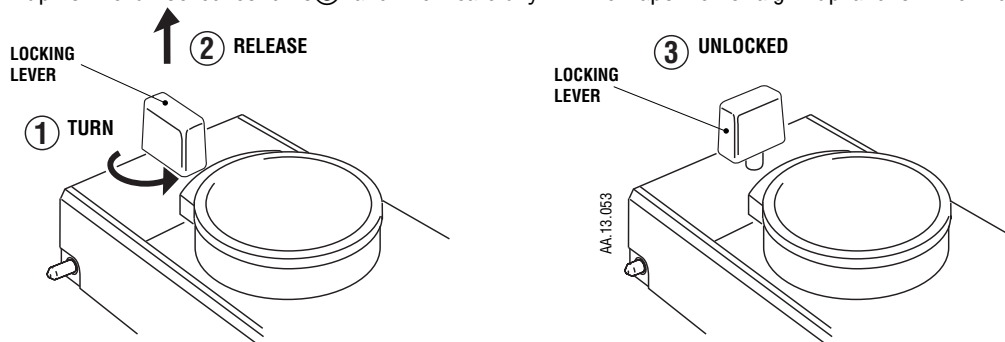

Fig. 5 Unlocking The Vaporizer From A Manifold
2. Referring to Fig. 5, unlock the vaporizer from the manifold by turning the locking lever counter-clockwise to the unlocked position. Release the locking lever and check that the locking lever springs up to the unlocked condition and then carefully lift the vaporizer straight up and off the manifold.